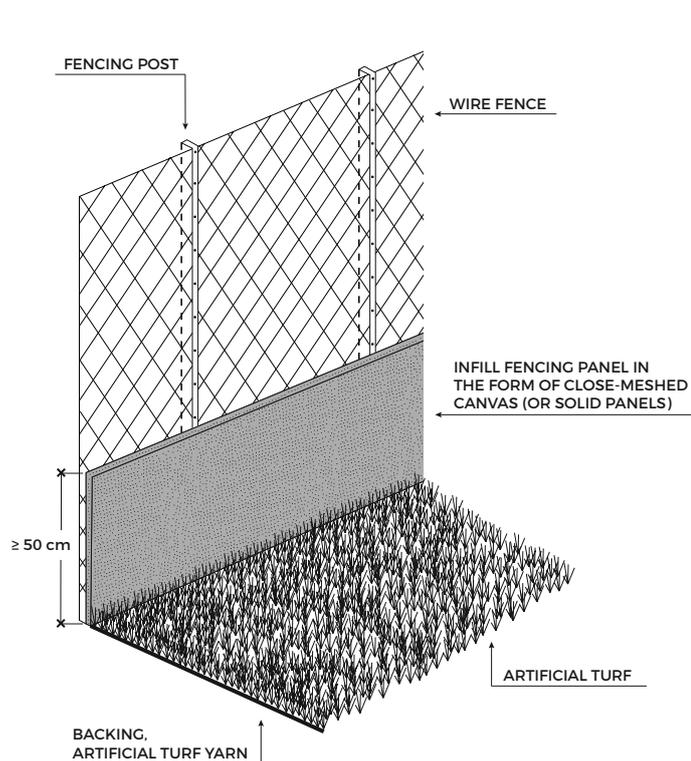

Figure 2a = Fence with infill fencing panel (solution with artificial turf all the way out to the fence)
- To keep granules on the pitch, a solid barrier / infill fencing panel, at least 50 cm in height, should be mounted all along the perimeter of the pitch (cf. Figures 2a + 2b). In many places, advertising boards, the height of which is typically more than 1 m, are used for this purpose.